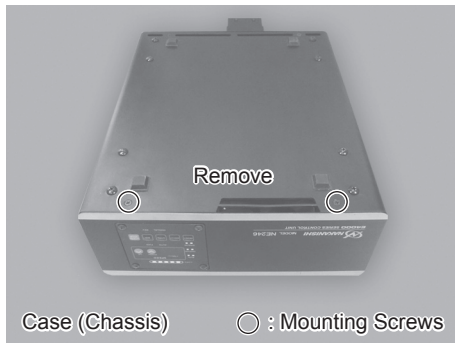

Fig. 40
- (1) Turn OFF the Main Power Switch of the CONTROLLER. Turn OFF the Power supply and Air supply to the CONTROLLER.
- (2) Remove the Mounting Screws (2pcs.) from the Case (Chassis) of the CONTROLLER (Fig. 40).
- (3) Remove the Power Cord Round Terminal from the main power supply terminal.